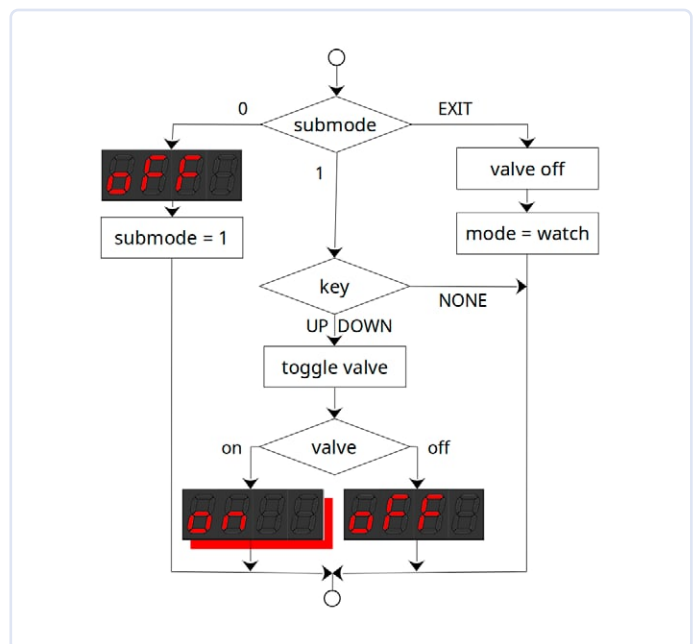

Figure 16: Flow-chart of Irrigation mode.
As an example, let's discuss *Irrigation* mode with the aid of a flowchart (Figure 16). The event-based design demands working with internal sub modes for each module. All modules start with sub-mode 0 (for initial tasks) and perform final tasks on sub-mode EXIT. Sub-mode EXIT is set by the key monitoring part of the interrupt service routine on long-press of the SET button. Being quite straightforward, the irrigation module has one sub-mode (1) where the valve is toggled on or off when the user hits the UP or DOWN key. The display is set according to the solenoid status. During on status, the display flashes.